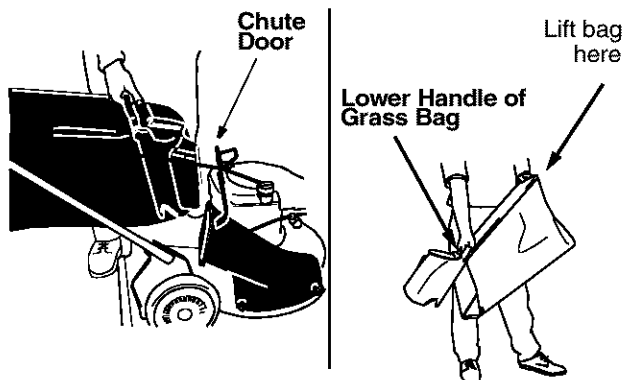

Figure 13
- Lift chute door and slide bag onto adapter. Top of bag rests on wire bracket that extends between the handles. See Figure 13.
- Lift grass bag from the bagging adapter using the lower handle of the grass bag. While holding the lower handle, lift up the rear section of the grass bag. See Figure 13. The bag will open and grass clippings will fall out. Empty the grass bag at a proper disposal site.